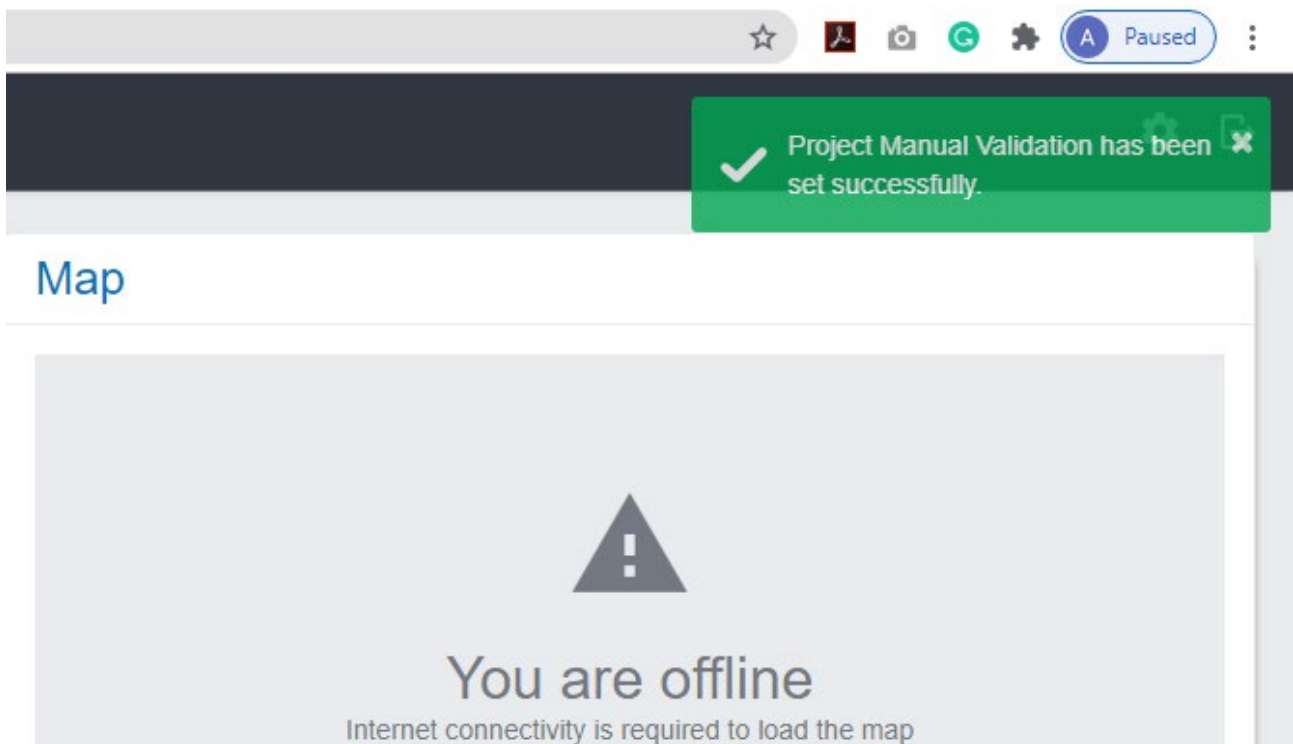

Figure 3-36
11. Project configuration completion message will appear on the right side corner as shown below in figure 3-36.